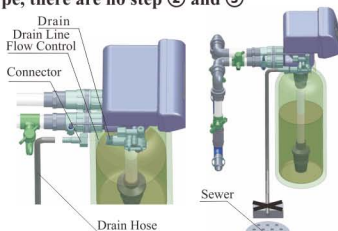

Figure 1-4
⑤ Install drain pipeline
a. As the Figure 1-4 shows, slide the drain hose connector into drain outlet.
d. Locate the drain hose well as the Figure1-4 shows.
● Be sure not connect drain with sewer directly, and leave a certain space between them, avoid wastewater being absorbing to the water treatment equipment, such as showed in the Figure1-4.